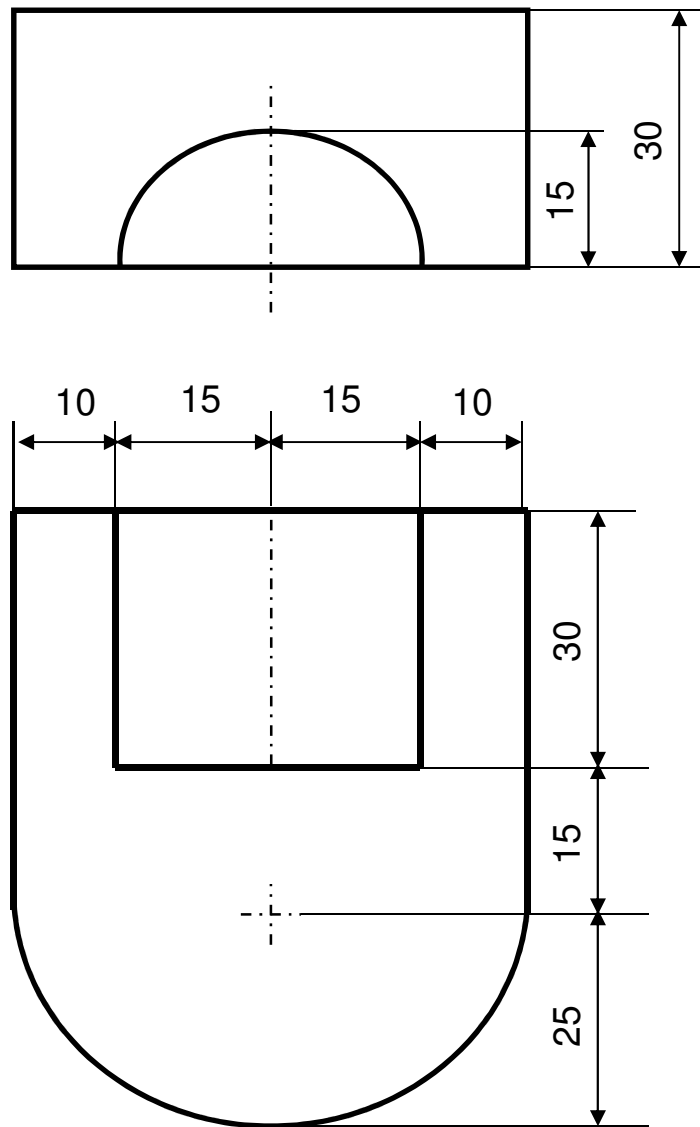

Figure 1: all dimensions are in mm
- a) Select a combination of two sub-processes from the list on the previous page for the manufacture of the component shown in figure 1 on the next page! There is no requirement for the surface finish! (2x2 pts)